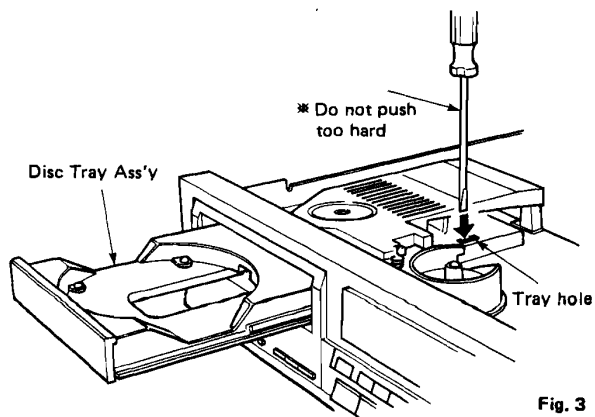

Fig. 3
- Push the hook on the DM unit with a slotted screwdriver or the like inserted into the tray hole in Fig. 3, and the disc tray ass'y can be removed.